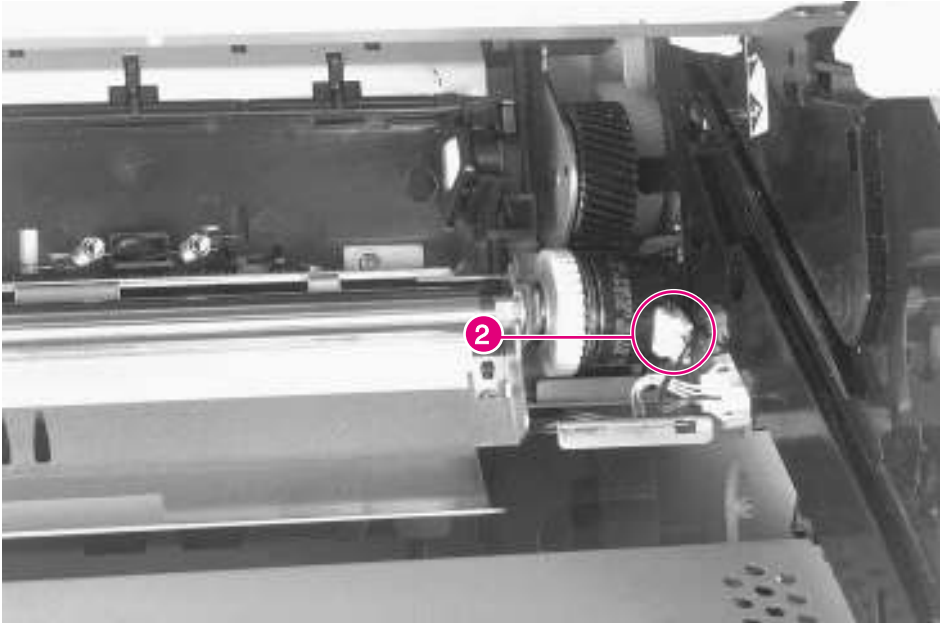

Figure 6-54 **Registration Assembly (2 of 3)**
- 5** Unplug the clutch cable from the clutch on the right end of the Registration Assembly (figure 6-54, callout 2).
- Registration Assembly (see figure 6-54 on page 326)